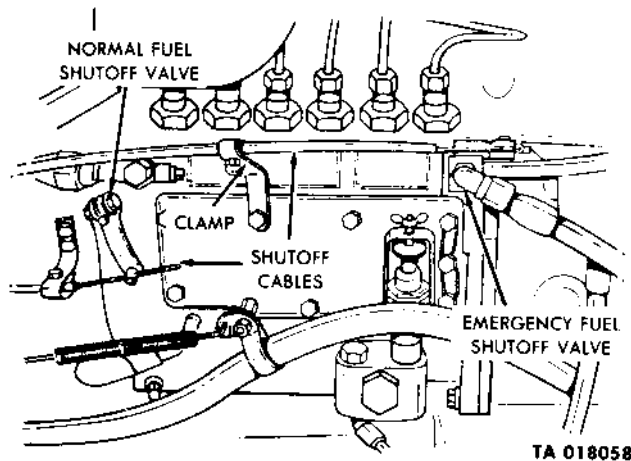

Figure 2-81. Removing shutoff valve—diesel only
- (1) Install the fuel shutoff valve (fig. 2-81).
- (2) Unscrew the nut and remove the bolt securing the emergency control cable to the clamp. Pull the cable from the clamp (fig. 2-81).